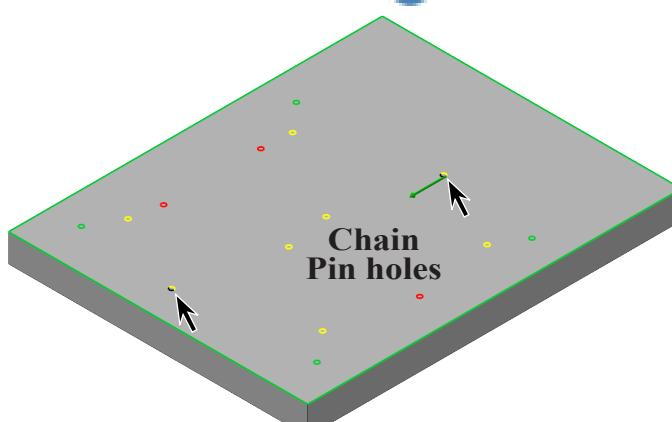

Fig. 16
Step 2. Click **both** Pin holes (magenta) to chain, Fig. 16.